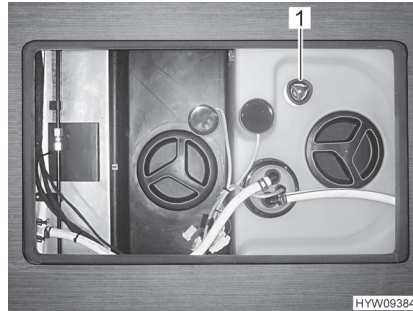

Fig. 193 Rotary handle (water tank)
- Turn the rotary handle (Fig. 193,1) on the water tank in a clockwise direction as far as it will go.
- Turn the rotary handle (Fig. 193,1) on the water tank in an anticlockwise direction as far as it will go. Excess water will drain away leaving approx. 20 litres in the tank.
- Turn the rotary handle (Fig. 193,1) on the water tank in an anticlockwise direction as far as possible beyond the resistance to fully open the drainage opening.